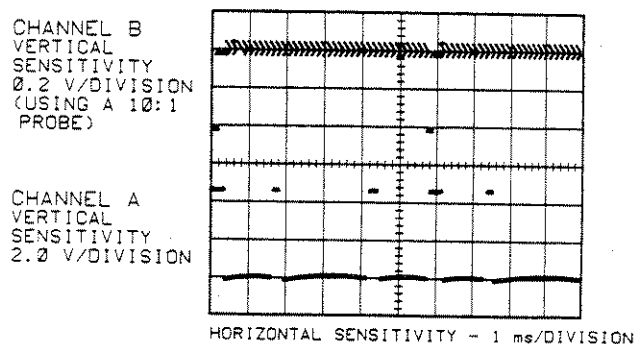

Figure 8-14. Z-Axis (Bottom) and Trigger (Top) Drive Signals
3. Turn on the Noise Figure Meter and verify that the signals are as shown in Figure 8-14.